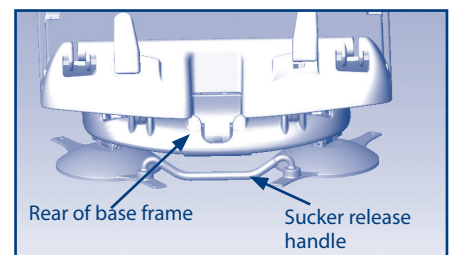

Figure14
- vii) Pull the sucker release handle attached to the rear suction feet at the back of the seat unit and the rear feet will be released (see fig 14).